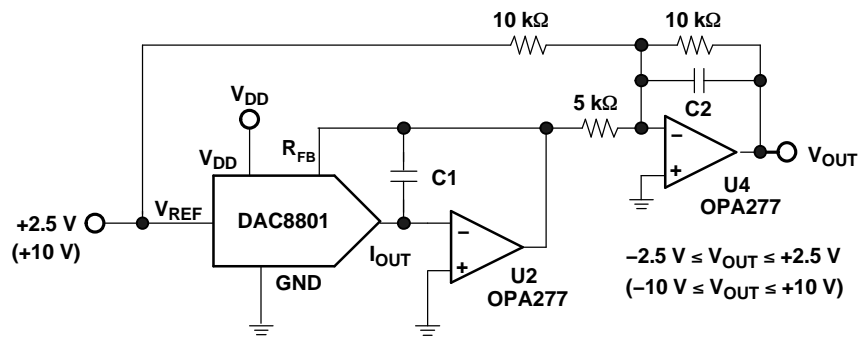

Figure 22. Bipolar Output Circuit
Some applications require full 4-quadrant multiplying capabilities or bipolar output swing. As shown in Figure 22, external op amp U4 is added as a summing amp and has a gain of 2X that widens the output span to 5 V. A 4-quadrant multiplying circuit is implemented by using a 2.5-V offset of the reference voltage to bias U4. According to the circuit transfer equation given in Equation 2, input data (D) from code 0 to full scale produces output voltages of $V_{OUT} = -2.5\text{ V}$ to $V_{OUT} = +2.5\text{ V}$.